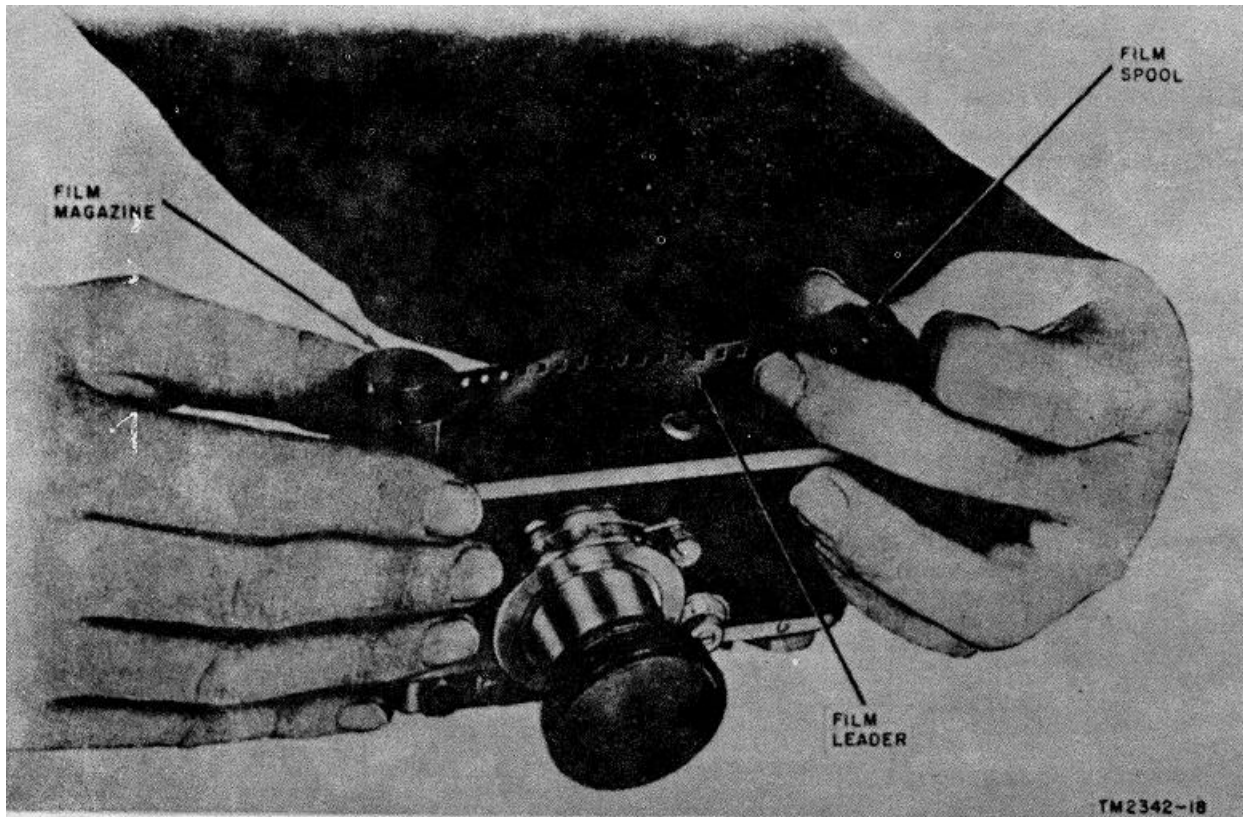

Figure 19. Loading camera.
- (1) Position the film magazine (fig. 19) and the takeup spool (knurled knobs up) over the film chamber of the camera and slide them into their respective locations. At the same time, guide the film leader into position in the slot along the back of the camera.